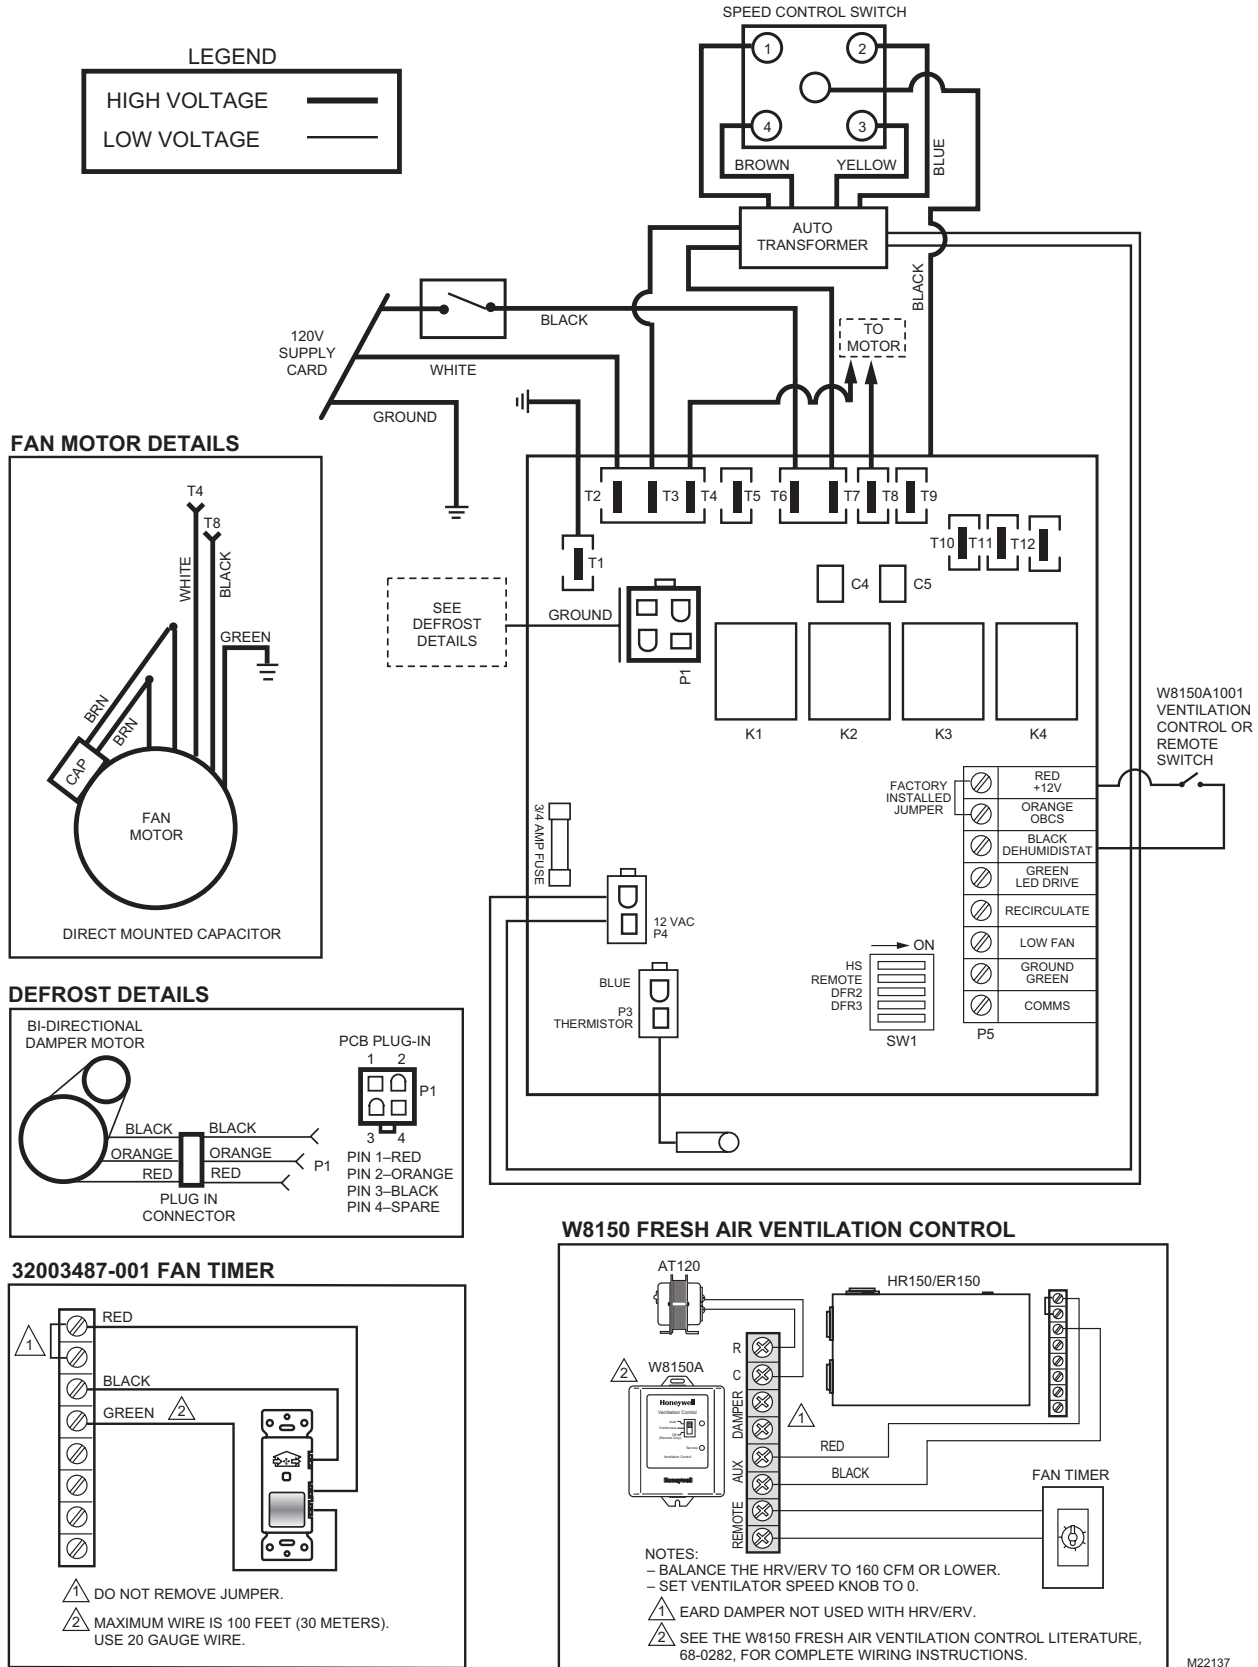

Fig. 11. Internal schematic for fresh air ventilation systems.
The hot line (black) is the correct line to switch. See Fig. 11. To confirm correct polarity, use voltmeter or test lamp to verify there is no power after the switch when the door is open. Check between that point and ground (on cabinet). This process must be used because occasionally some dwellings are incorrectly wired.
Mount digital fan timer in a full or one-half depth electrical box in the living space. See Fig. 11 for the 32003487 digital 20-minute fan timer and the W8150A Fresh Air Ventilation Control wiring diagrams. (See Accessory Parts List, items 9 and 10, for the W8150A Fresh Air Ventilation Control and the 32003487 Digital Fan Timer.)